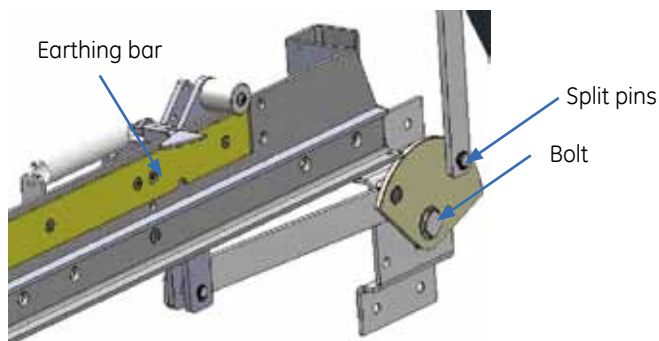

Figure 6/4: Driving mechanism of the shutter
- Remove the split pins of the driving mechanism of the shutters and connection bar (see figure 6/5)
- Screw off the bolt which is used to fix driving mechanism (see figure 6/4)